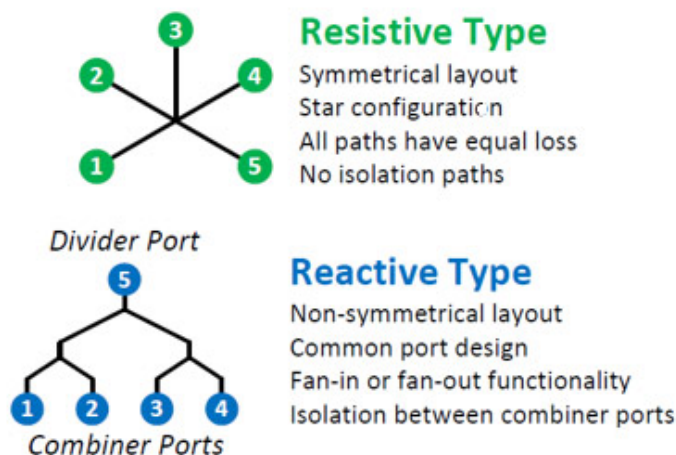

Figure 4: A comparison between resistive and reactive power dividers. Source: [JFW Industries](http://www.jfwindustries.com)
- A reactive type is non-symmetrical and distributes signals between multiple devices and a single device (fan-out and fan-in). In the configuration shown in Figure 4, port 5 is a divider port: an input at port 5 is routed equally to combiner ports 1-4 with equal loss. Conversely, input signals into ports 1-4 are combined equally and routed to port 5. However, ports 1-4 have at least 20 dB isolation between them.